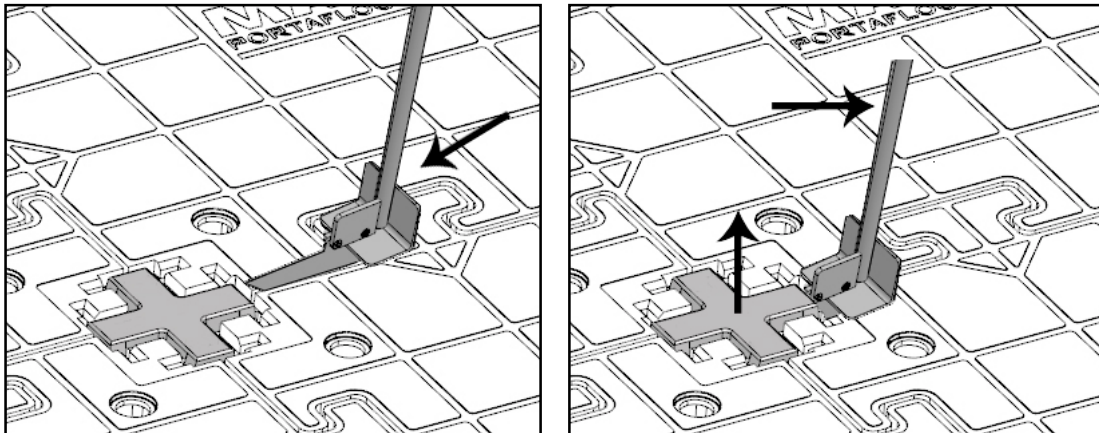

Figure 6
3. Continue rotating the handle backwards until the QuickLock disconnects from the MAX panels (see Figure 6).